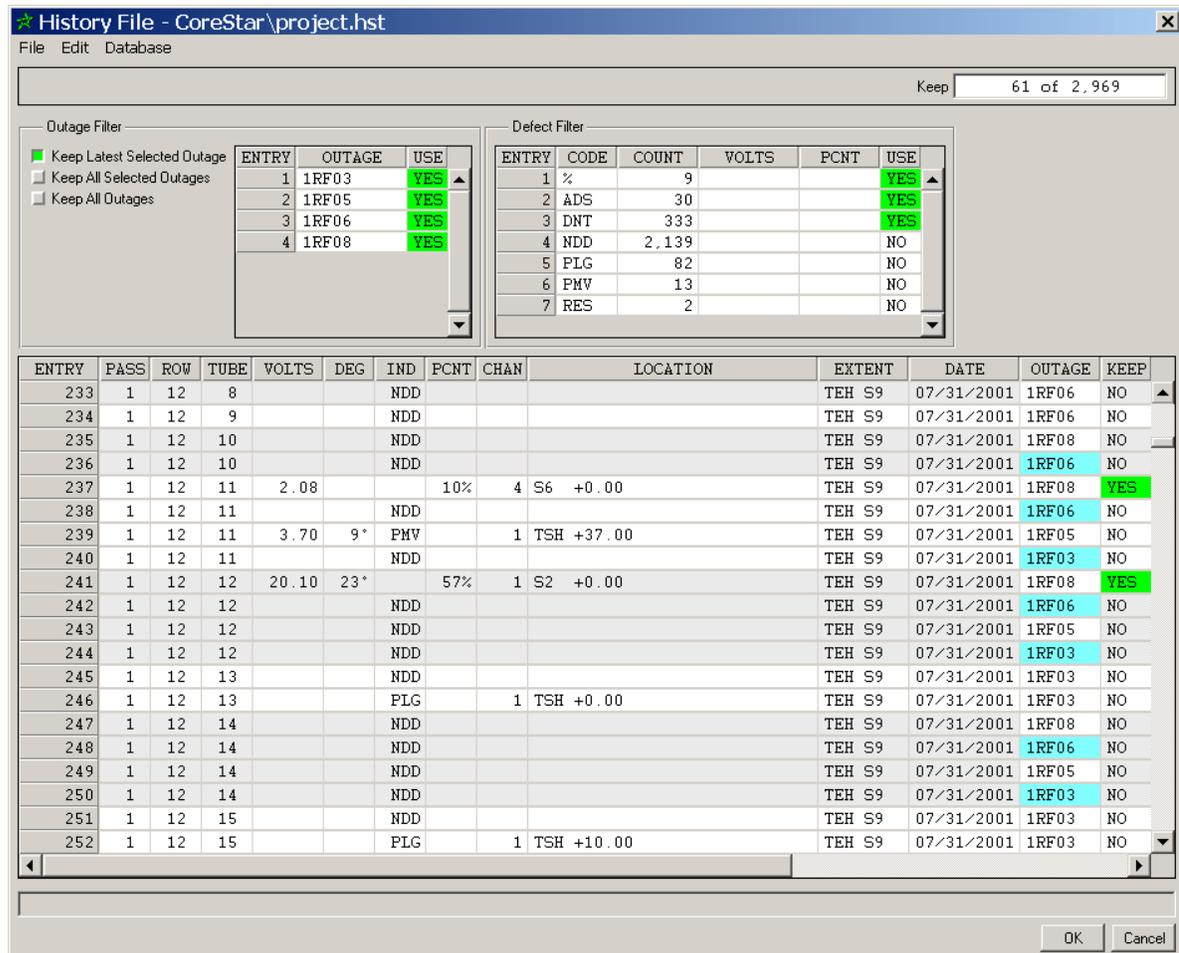

Figure 13-1. History Dialog - Creating a History File in DBMS
STEP 9: Click the *Use* fields for %, *ADS*, and *DNT* so that only these 3 fields show *Yes*. The *Keep* box in the upper right of the *History* dialog shows that 61 records of the total available in the database will be used for the history file. Compare your *History* dialog to Figure 13-1.